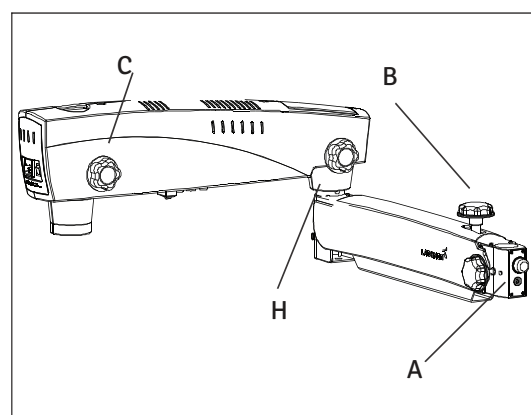

Fig.50
This knob shown as (H) in fig 50 locks the Rotary movement of the Suspension Arm at the desired position by turning it clockwise.
This knob shown as (B) in fig 50 locks the UP/Down movement of the suspension arm at the desired height by turning it clockwise.